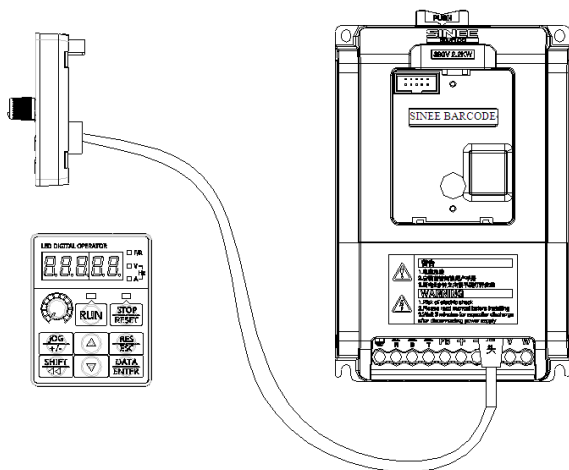

Figure 3-22 Disassembling the Keypad and Connecting Extension Keypad Wire
2. See Figure 3-22 for wiring.